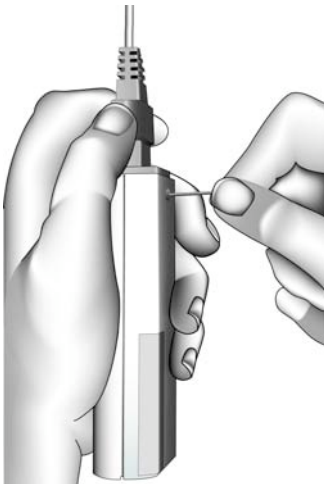

FIGURE 4
2. Push the pointed end of a paper clip into the Module Release mechanism, while simultaneously pushing upward on the Cable Adapter or pulling upward on the attached sensor connector (Figure 4).